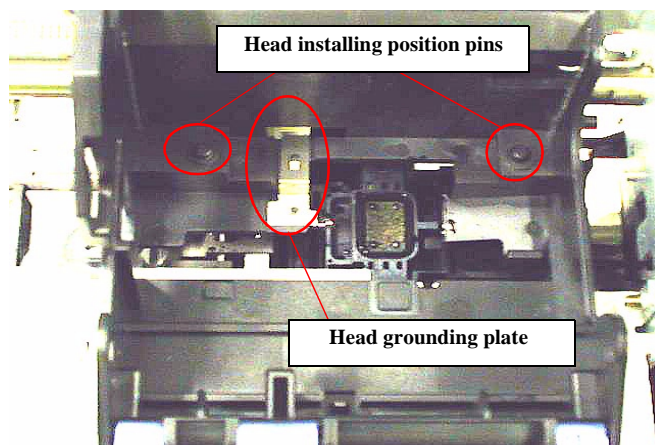

Figure 4-7.
- Make sure that the Head Grounding Plate is installed to the carriage correctly. Refer to Figure 4-7.
- Make sure that two holes of the Printhead correctly fit in the installing position pins. Figure 4-7.